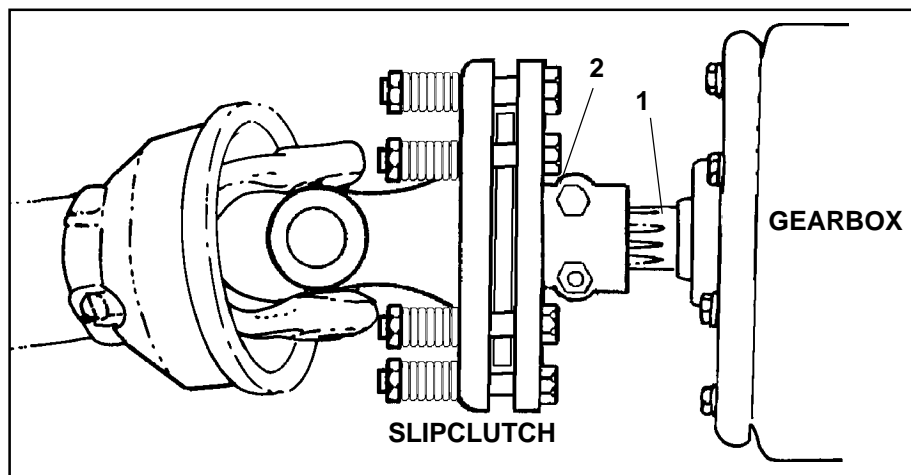

FIGURE 2. Driveline Slip Clutch Attachment
4. Attach the slip clutch end of the driveline to the gearbox input shaft securely. Make certain that the slip clutch is fully onto the input shaft splines. **Figure 2.** Tighten the locknuts (2) alternately until they have reached the proper torque. Refer to Torque Chart.